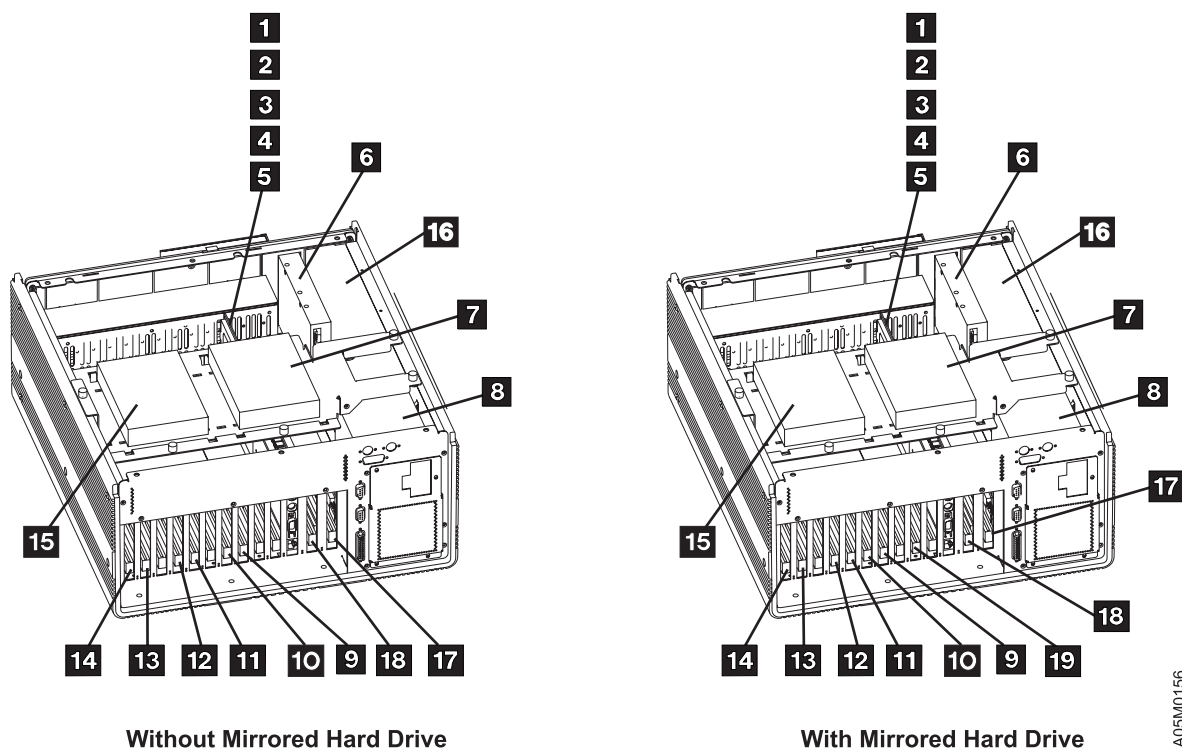

Figure 2. Model 7588 Industrial Computer System Unit
- ___ 3. If a hard drive mirroring card **is installed**, install the second ARTIC adapter card in card slot 8 (**10** in With Mirrored Hard Drive Figure 2 on page 11).
If a hard drive mirroring card is **not installed**, install the second ARTIC adapter card in card slot 7 (**10** in Without Mirrored Hard Drive Figure 2 on page 11).
- ___ 3. Connect the IDE ribbon cable(s) and the power cable(s) to the front of each HDD. If a mirrored hard drive card is installed, ensure that the IDE cable labelled 'Primary' is plugged into the Primary hard drive (**7** in Figure 2 on page 11) and that the IDE cable labelled 'Mirrored' is plugged into the Mirror hard drive (**15** in Figure 2 on page 11).